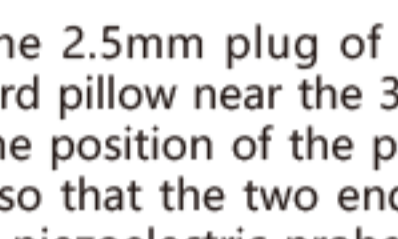

Fig.4
3. After drilling the 3mm hole, clean up the wood chips in the groove of the piano, and smooth the periphery of the 3mm hole. The operation diagram is shown in Figure 4.